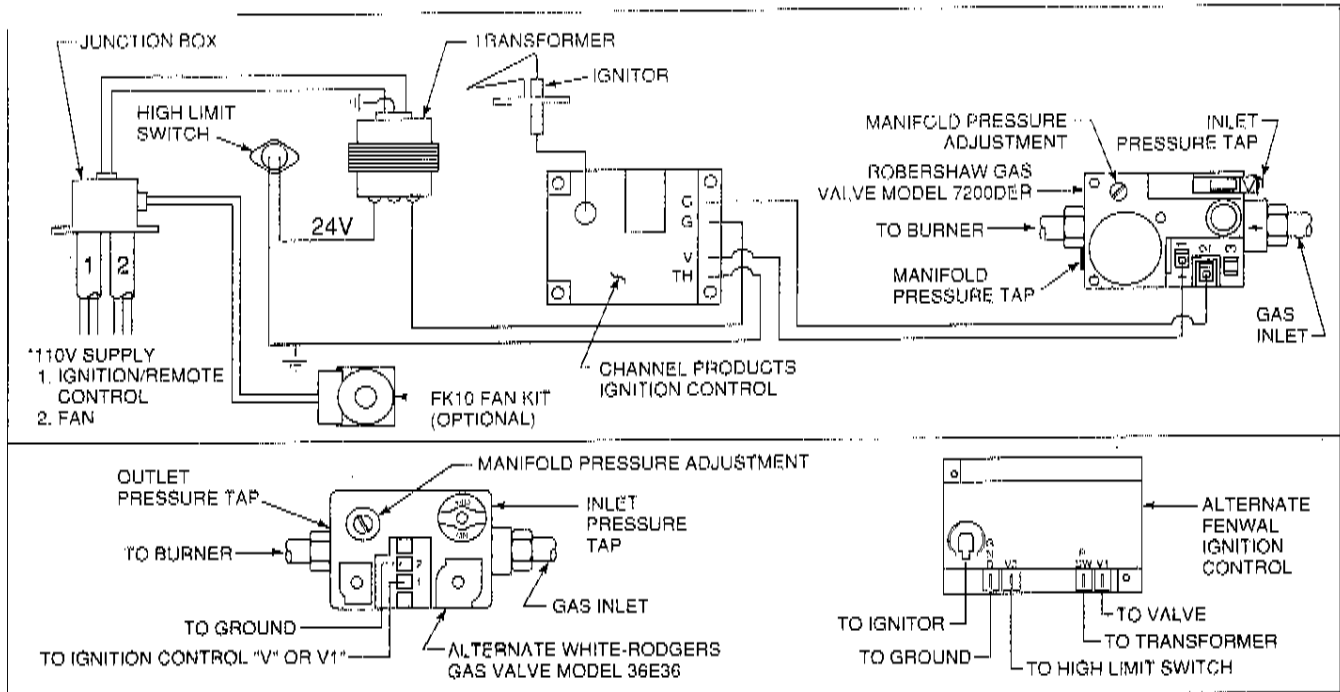

Figure 6A
2. **Appliance Requirements.** This appliance requires a 110V power supply from a remote wall switch to the appliance junction box for operation. A wiring diagram is shown in Figure 6A (page 5).